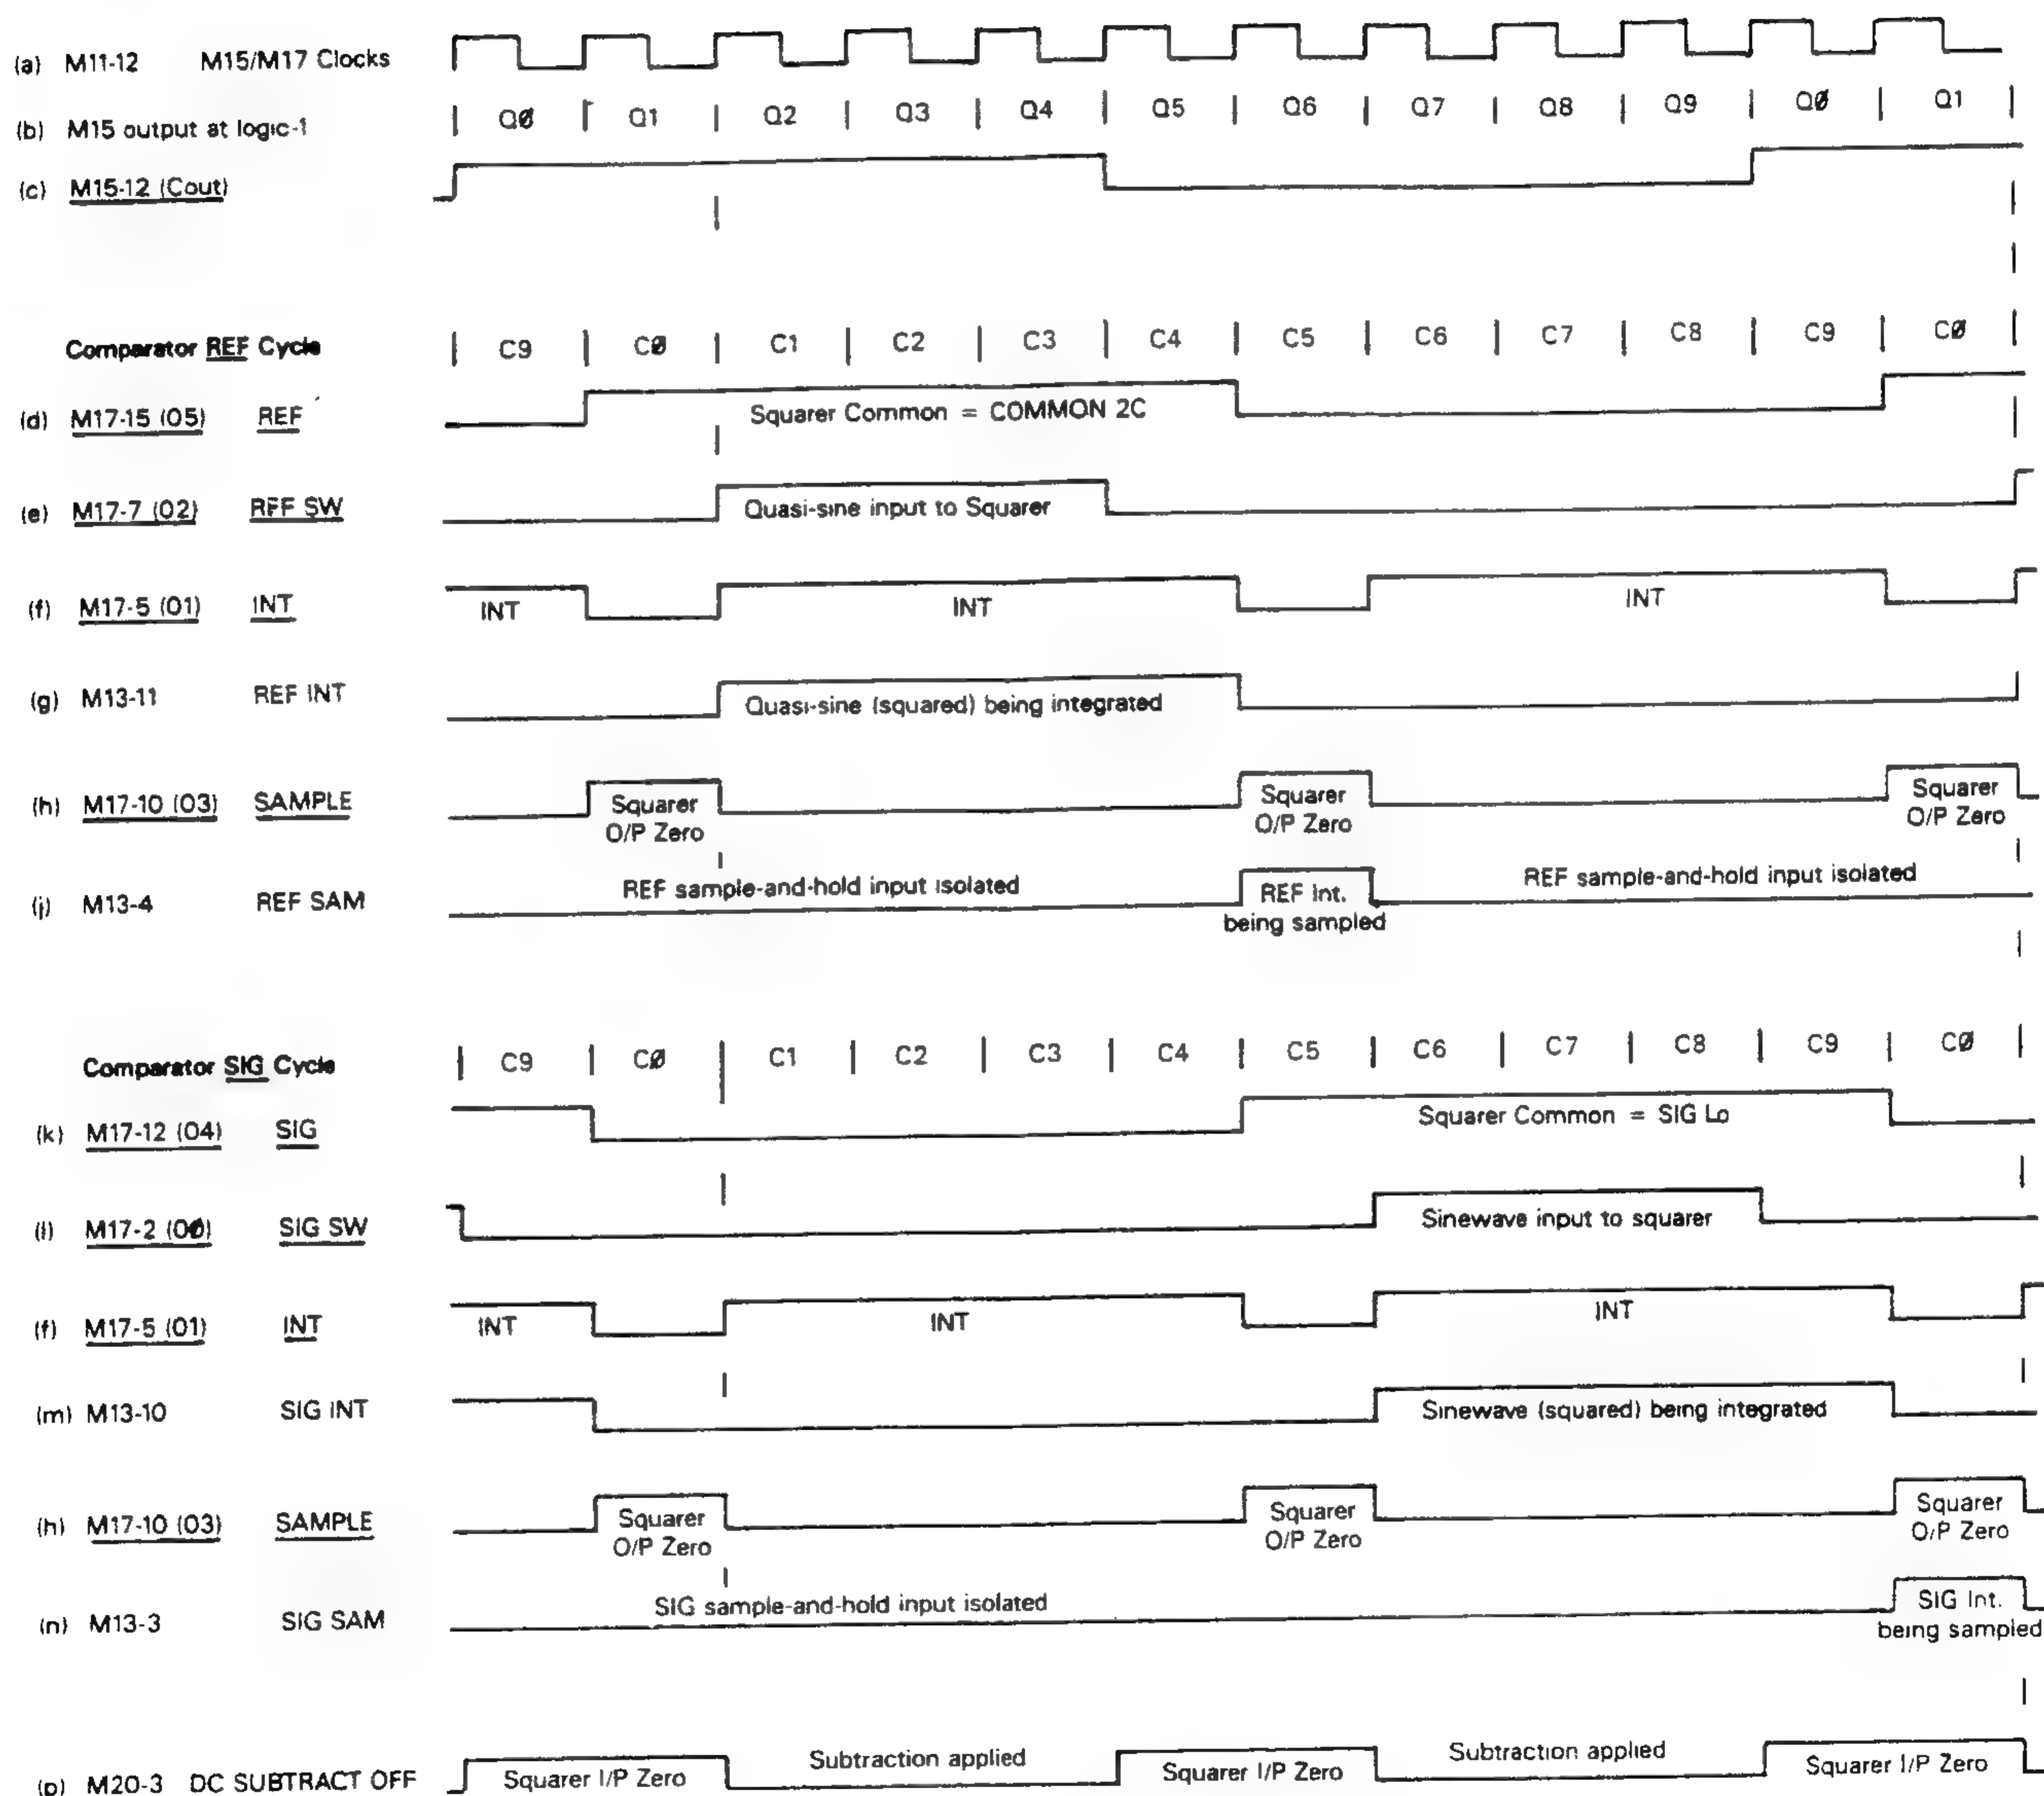

FIG. 9.13 COMPARATOR TIMING LOGIC
9.9.5 COMPARATOR TIMING LOGIC (Fig. 9.13)
The comparator timing waveforms for the sequence are illustrated in Fig. 9.13. To highlight the data delay, the main waveforms are grouped into two blocks: 'REF' and 'SIG', each headed by the states of the comparator cycle. Line (b) shows which of M15 (Q) outputs is at logic-1 during each of the states. It can be seen that the effects of M15 output states are delayed by 1 clock period, in the translation to comparator states.